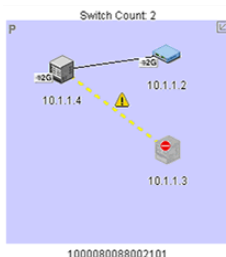

Figure 51 Removed connection in a persisted fabric
- If one or some of the connections are disabled (but not all), the enabled connections appear as black lines and the disabled connections appear as yellow, dashed lines with an interswitch link (ISL) alert (Figure 51).